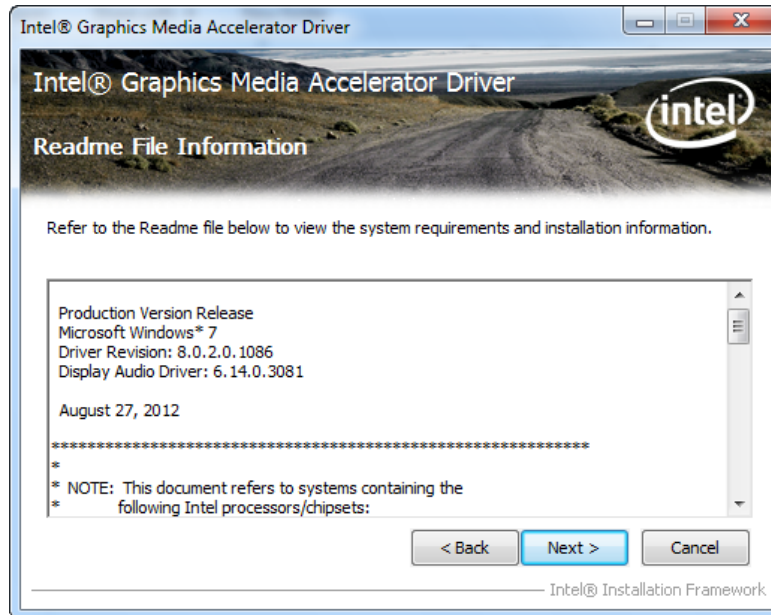

Figure 5-9: Graphics Driver Read Me File
Step 8: The Read Me file in Figure 5-9 appears.